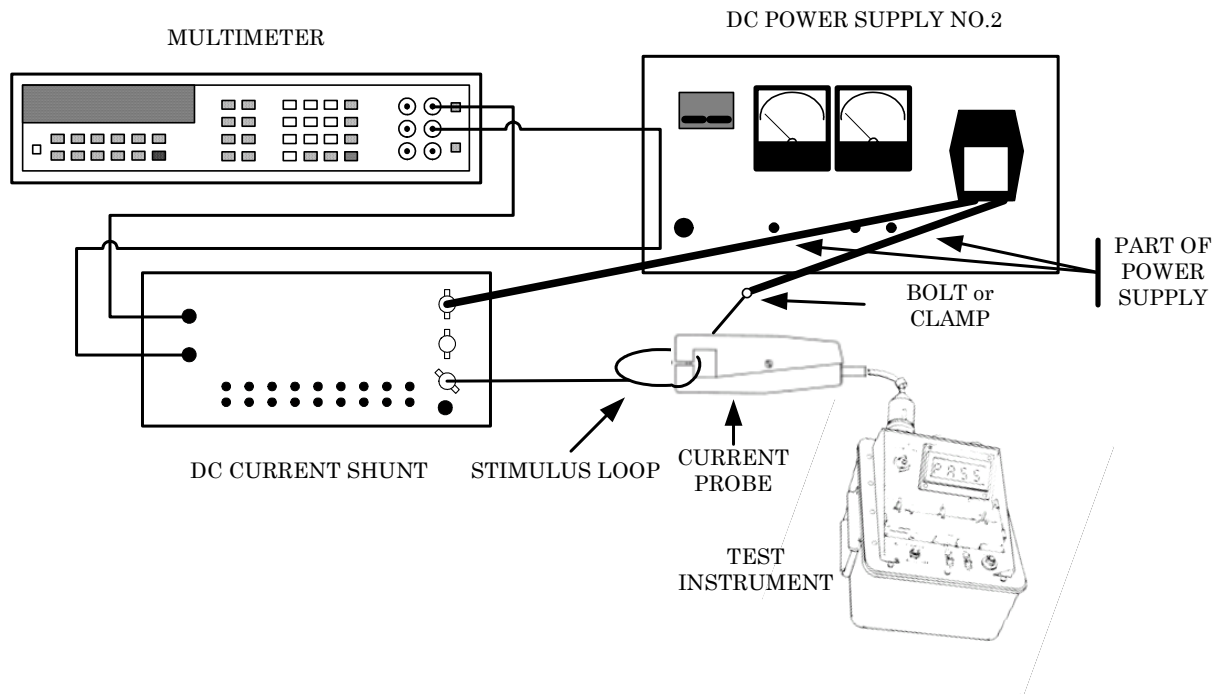

Figure 1. Dc current - equipment setup.
(1) Connect equipment as shown in figure 1.
Fabricate a current stimulus loop as shown in figure 1. The loop design should be 20 turns of No. 10 insulated copper wire with a bundle diameter of the turns being no more than 1 inch. The inside diameter of the loop should be 6 inches, ± 1 inch. Care should be taken to ensure that the loop does not overheat.